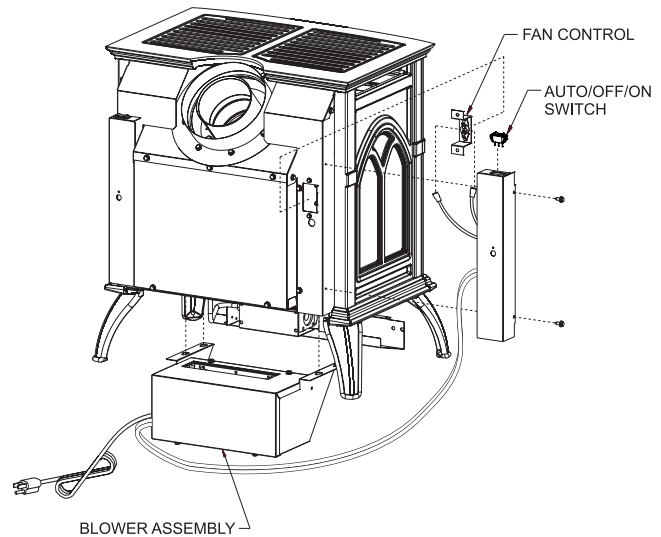

Figure 40
10. Bend the fan control tab, located on the left side of the back of the unit, inward toward the unit. **See Figure 40.** Be sure tab is bent at least 90 degrees to allow fan control bracket to slide into slot.